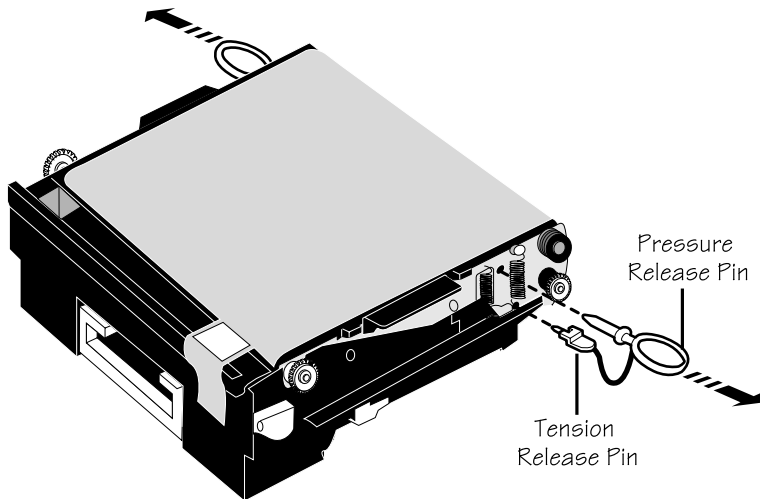

Fig. 2.25 Remove the Release Pins
3. Remove the pressure release and tension release pin sets (one set on the left and one on the right) from the OPC belt cartridge (fig. 2.25).